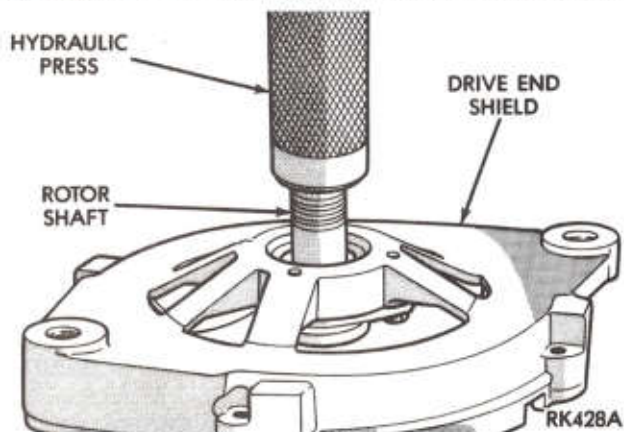

Fig. 13—Press Rotor Shaft from End Shield
- (11) Using a suitable device, press the rotor shaft from the drive end shield (Fig. 13). If the bearing is defective, the drive end shield must be replaced as an assembly.